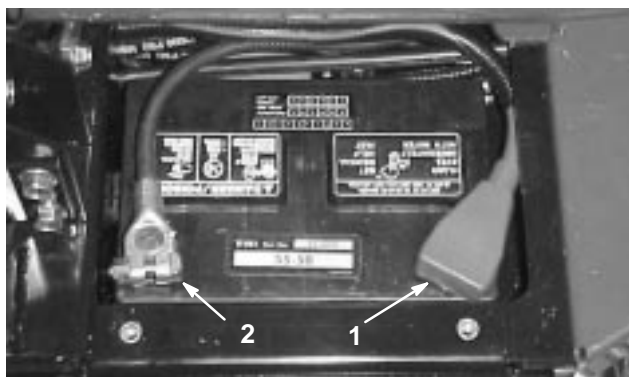

Figure 2
7. Install the positive cable (red) to the positive (+) terminal and the negative cable (black) to the negative (-) terminal of the battery and secure them with capscrews and nuts (Fig. 2). Make sure that the positive (+) terminal is all of the way onto the post and the cable is positioned snug to the battery. The cable must not contact the battery cover. Slide the rubber boot over the positive terminal to prevent a possible short from occurring.